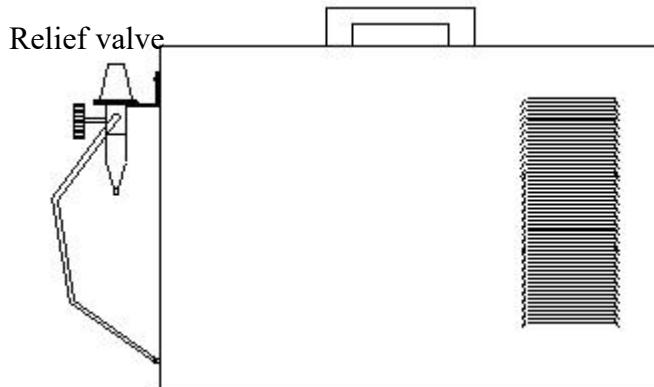
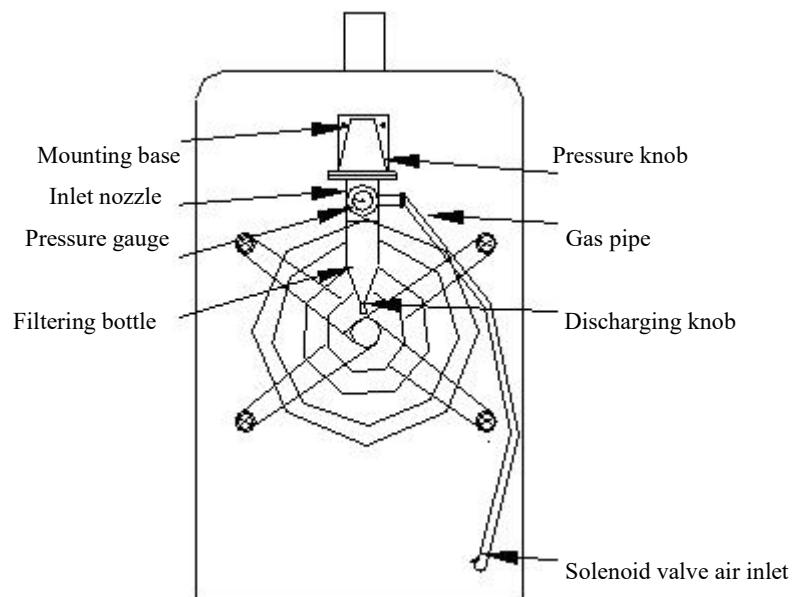

Figure 2
Figure 3
4.3 Installation and operation of air compressor (Figure 2 and Figure 3)